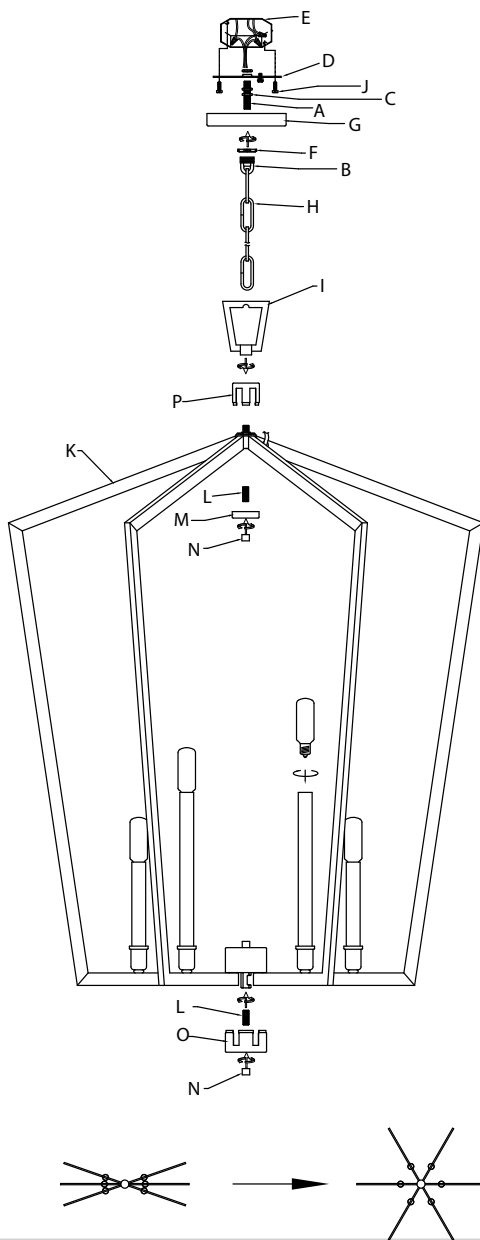

Fig. 1
- Rotate the arms to the correct positions (Fig.1)
- 9) Tournez les bras aux positions correctes (Fig.1)